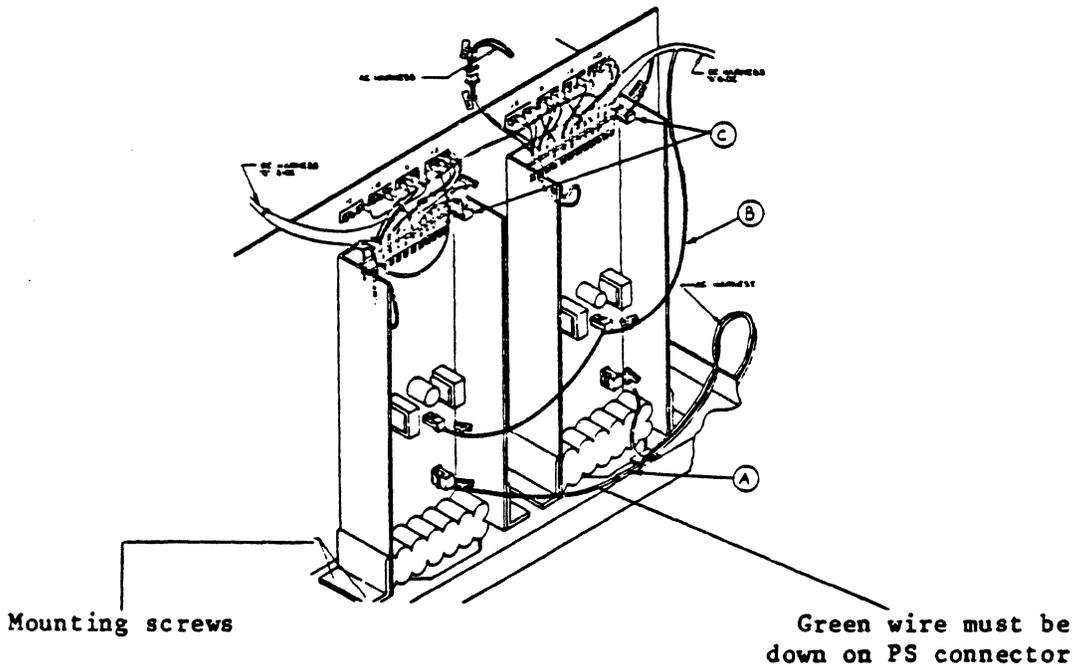

Figure 1-12 Power Supply Connectors
1-11.1 "A" or "B" Power Supply Removal (Fig. 1-12, 1-13)
4. Disconnect the 3 plugs (A, B and C of Fig. 1-12) and the terminal strip that is at the top of the power supply.
5. At the bottom of the power supply are two brackets that hold it to the card cage frame. Remove the two screws from each bracket (Fig. 1-12).